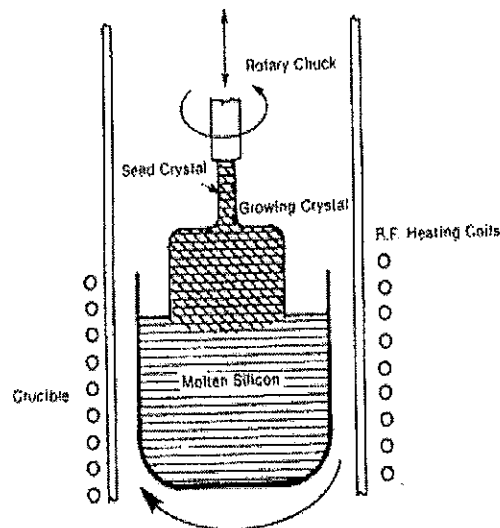

Figure Q1(b): Schematic diagram for Czochralski crystal growth process.
- (b) Czochralski (CZ) technique is the main technology used in the growth of monocrystalline silicon (Si) ingot for microelectronic applications.
- (i) Based on the diagram provided in Figure Q1(b) below, describe the CZ monocrystalline growth process for a doped Si ingot. [8 marks]